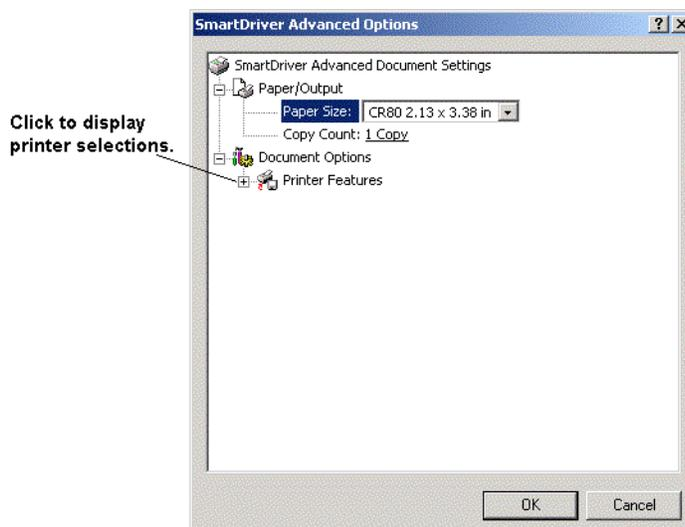

Figure 3-4: Advanced Options, Windows 2000 and XP
- 6 If the setting you want to change does not appear, click the Advanced button to display the Advanced Options dialog box (Figure 3-4). Click the plus sign (+) to see all selections available. When you click a selection, a list of choices appears next to the selection. Click the arrow on the box to see the selections available.